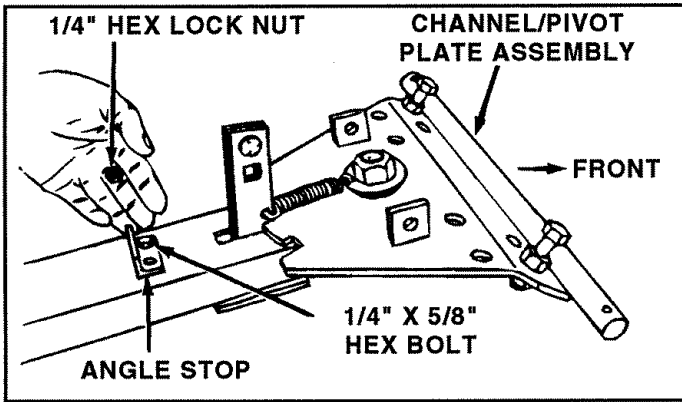

FIGURE 5
- Assemble angle stop to top of channel using one 1/4" x 5/8" hex bolt down through left hand hole, and one 1/4" hex lock nut under channel. See figure 5. **Do not tighten at this time.**